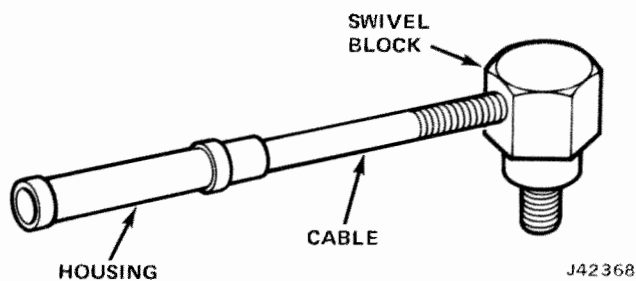

Fig. 8-17 Low Range Swivel Block
(1) Remove swivel block from control lever.
(2) Move reduction unit control lever to most forward position.
(3) Thread swivel block in or out on cable end to obtain free fit in reduction unit control lever (fig. 8-17).
(4) Secure swivel block to control lever.
(5) Check operation of reduction unit.